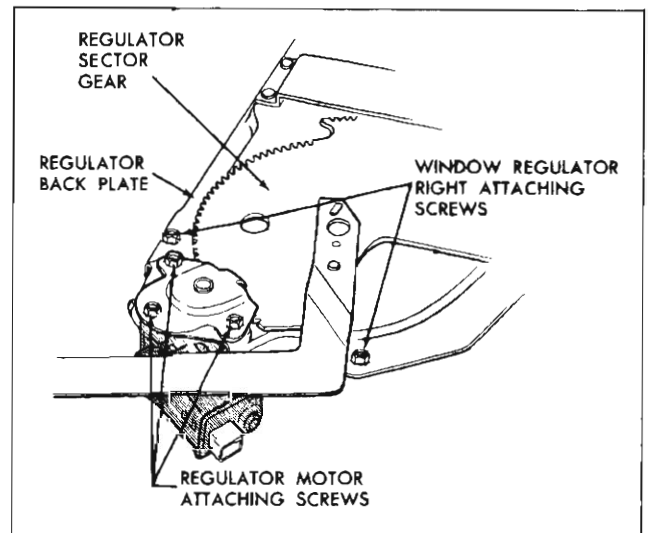

Fig. 91—Window Regulator Motor Removal
Drill a 1/8" hole through regulator sector and back plate (fig. 91)—**DO NOT** drill hole closer than 1/2" to edge of sector or backplate or holes in sector or back plate. Install a pan head sheet metal tapping screw (#10-12 x 5/8) in previously drilled 1/8" hole to lock regulator sector gears and retain counterbalance spring tension.
5. Loosen regulator right attaching screws (fig. 91). Remove three (3) regulator motor attaching screws (fig. 91) and remove motor assembly from regulator and tail gate.